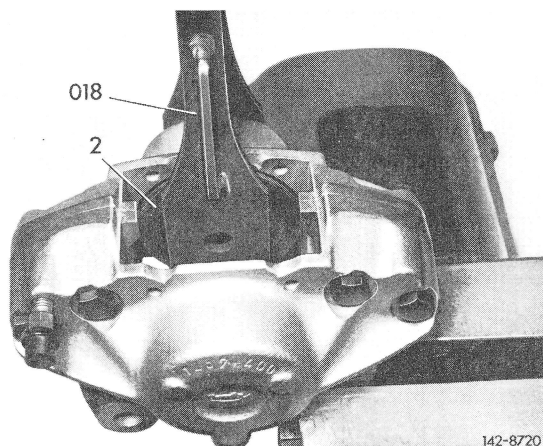

Fig. 3
3 Hold one piston (2) by means of piston resetting pliers (018). Then remove opposite piston with compressed air of approx. 0.5 bar overpressure (0.5 atü) (Fig. 3).